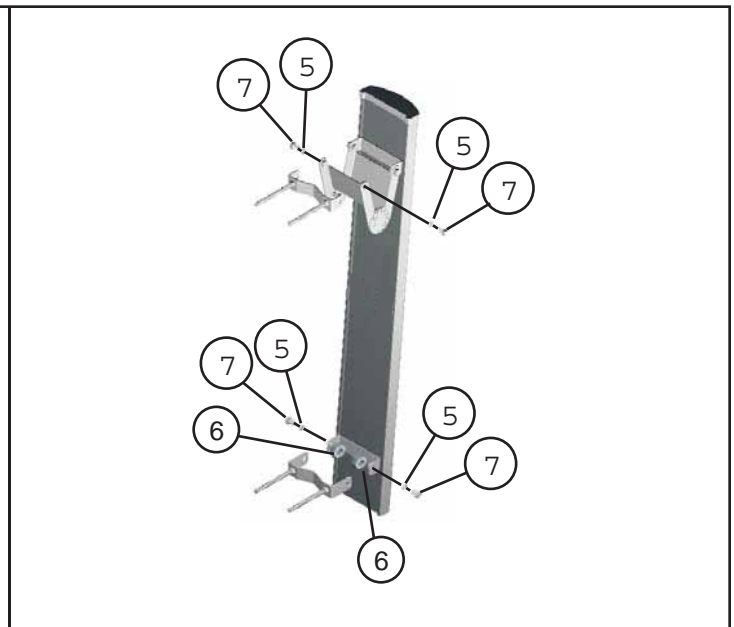

Figure 4. Fastening Upper and Lower Bracket Assemblies to Antenna.
4. Fasten the upper and lower bracket assemblies to the antenna as shown in Figure 4.